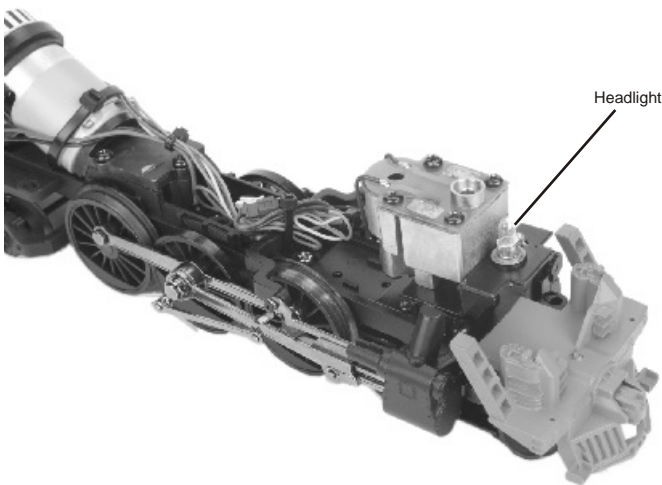

Figure 8
1. To replace the headlight in this model you will need to follow the disassembly instructions for greasing the engine in figure 6 on pg. 13. Once the boiler has been removed you can access the headlight(see figure 8).